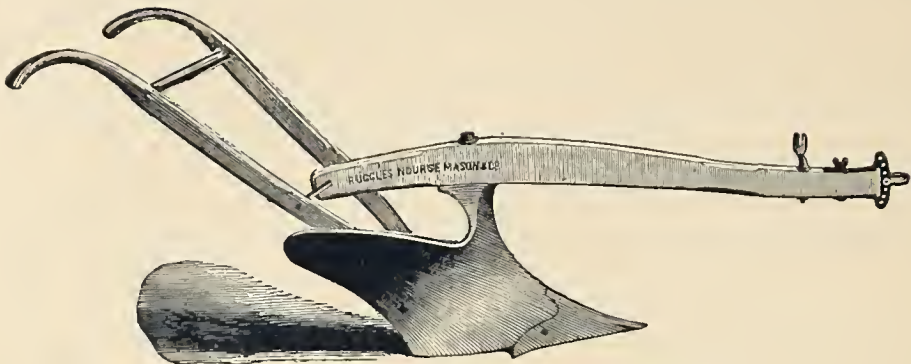

Fig. 281. — Eagle Plows, 1 B and 2 B.
*Eagle Plow, 1 B*, a large, one-horse plow, frequently used with two horses, is represented by *Fig. 281*.